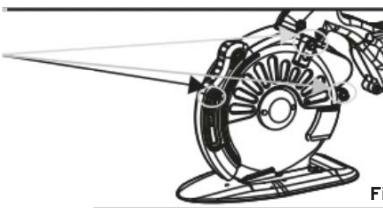

Figure 3.
1. Remove the 3 screws on the cutting shield and remove the shield (Figure 3).